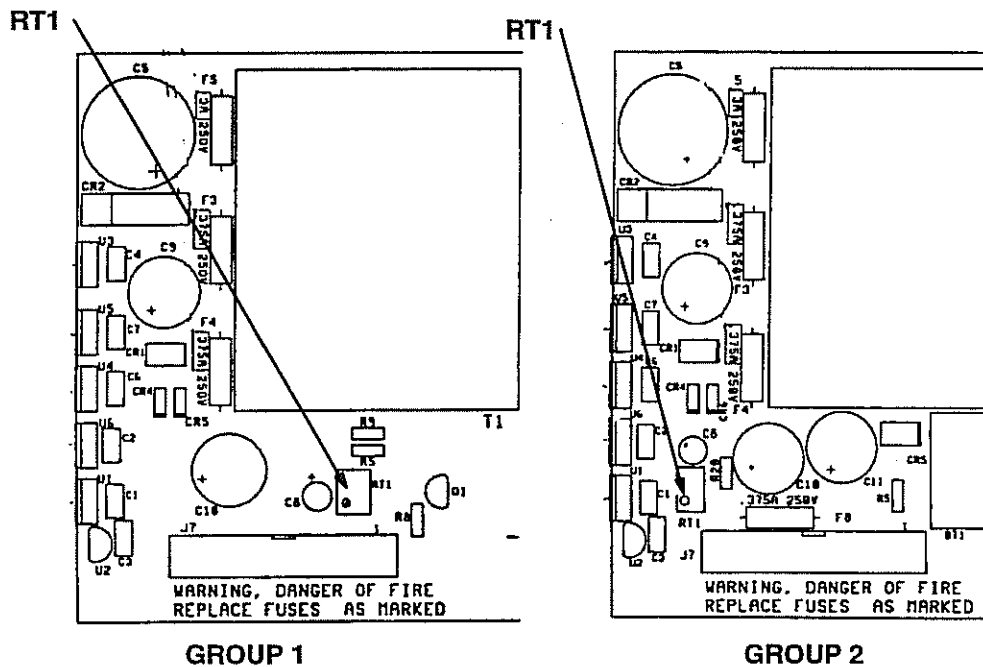

FIGURE 5.1 POWER SUPPLY LOCATION OF TEST POINTS AND ADJUSTMENTS
5.3.2 POWER SUPPLY (REFER TO FIGURES 5.1 AND 5.2 FOR LOCATION OF TEST POINTS AND ADJUSTMENTS)